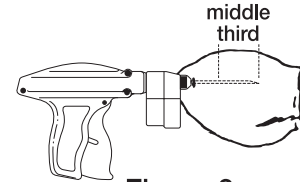

Figure 3
5. Upon penetration, the needle should be fully inserted (Figure 3) between the skin and cartilage, avoiding major blood vessels. Full insertion of the needle is important to maximize implant retention.